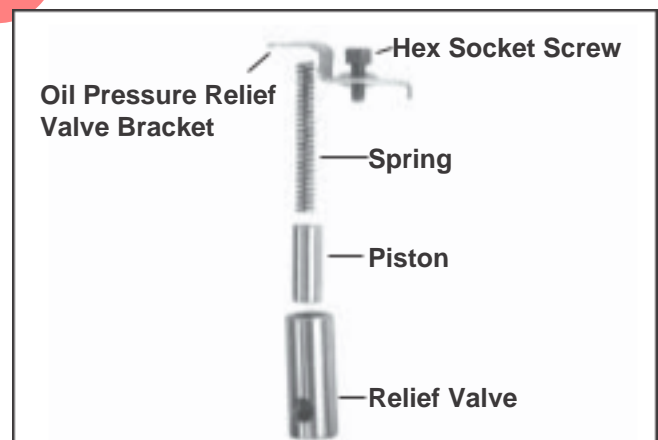

Figure 11-14. Installing Oil Pressure Relief Valve Body, Plunger, and Spring.
- Insert the piston and spring into the body. See Figure 11-14.
- Install the bracket and hex flange screw. See Figures 11-14 and 11-18.